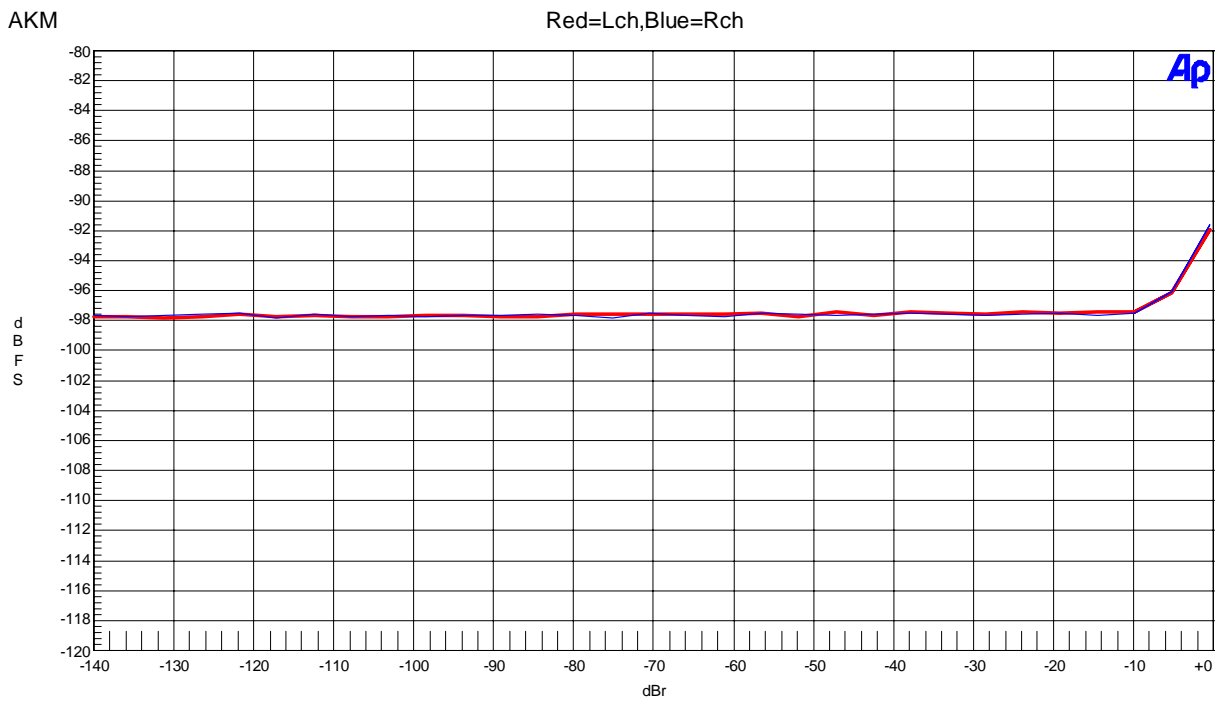

Figure 19. THD + N vs Input Level (Input Frequency=1kHz)
- Figure 19. THD+N vs fin (Input Level=0dBFS)